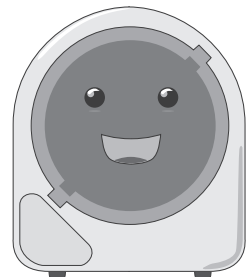

Fig.12: When deleting an event, if any higher numbered events exist, it will move down to occupy the currently shown event number.
2. Press and hold the **CLOCK** button for three (3) seconds to delete the selected event. **(Fig.12)**